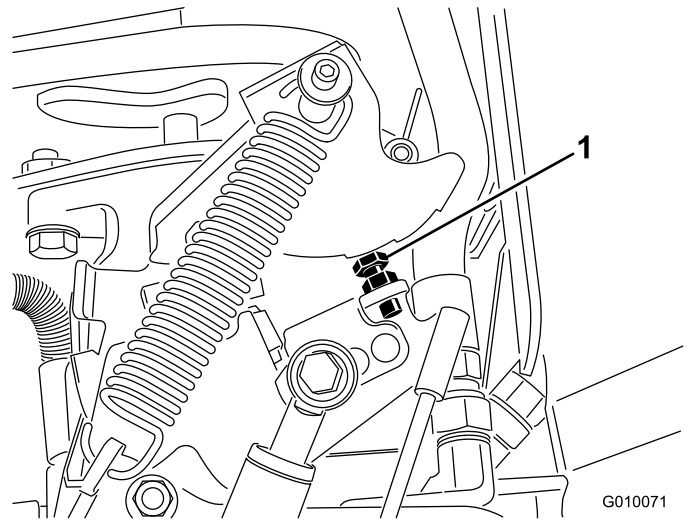

Figure 66
5. If an adjustment is needed, turn the pump stop bolt (Figure 66) closer to the stop plate to decrease hole spacing or turn the stop bolt away from the stop plate to increase hole spacing.